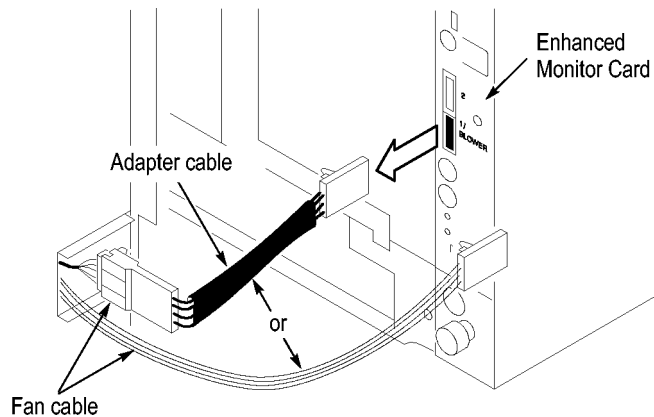

Figure 15: Check for an adapter cable and disconnect the cable
2. Disconnect the cable from the Enhanced Monitor Card. There may be a 3-inch adapter cable on the end of the fan cable. (See Figure 15.) The cable configuration will be used to determine the proper jumper settings in step 5.